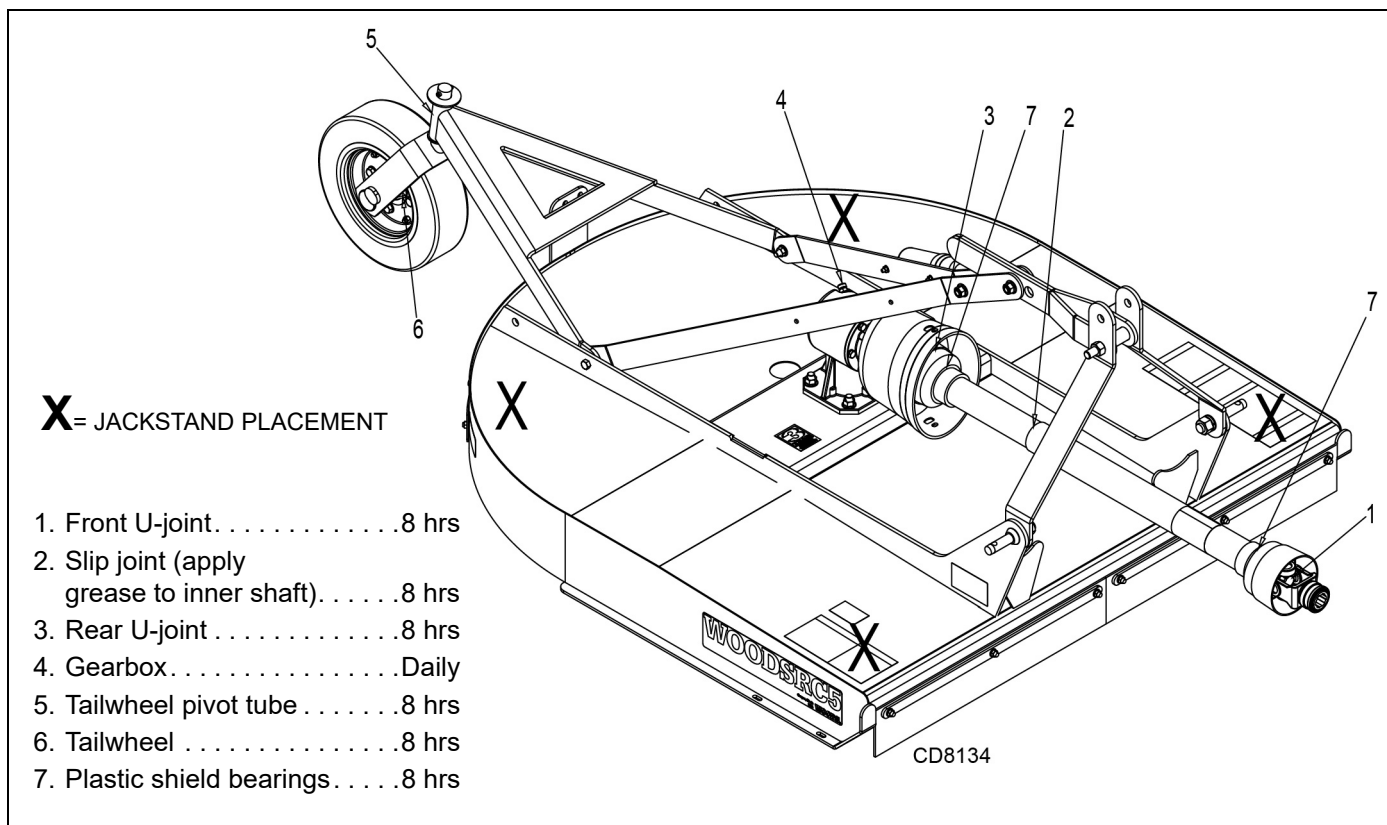

Figure 9. Jackstand Placement and Lubrication Points
1. Jackstands with a load rating of 1000 lbs or more are the only approved blocking device for this cutter. Install a minimum of four jackstands (shown by Xs in Figure 9) under the cutter before working underneath unit.
2. See Figure 9 for lubrication points and frequency of lubrication based on normal operating conditions. Severe or unusual conditions may require more frequent lubrication.
2. Raise cutter and block securely (see Figure 9).
3. Align crossbar (1) with blade access hole in the cutter frame. Remove blade pin nut (5) and lock washer (4). Carefully drive pin (3) out of crossbar.
4. Rotate crossbar (8) and repeat for opposite blade.